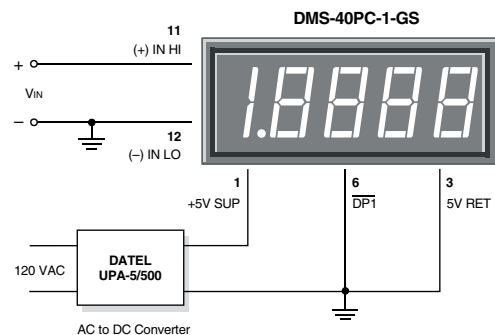

Figure 2. Single-Ended Input Configuration
- 1. Single-Ended Input Configurations:** The DMS-40PC can measure single-ended signals with either positive or negative polarities. True single-ended inputs always have one of their two terminals at the same potential as the DMS-40PC's 5V RETURN (pin 3). Single-ended inputs are usually derived from power supplies that have a common ground with the meter's +5V supply. Figure 2 shows the recommended connections to be used with this type of input. Pin 12, (-) INPUT LO, is shown directly tied to ground. This connection to ground must be a separate wire or pc-board trace originating at V_m 's negative terminal. This hook-up will normally eliminate display instabilities and errors caused by ground-loop currents which can occur if (-) INPUT LO is tied to ground at, or near, pin 3.